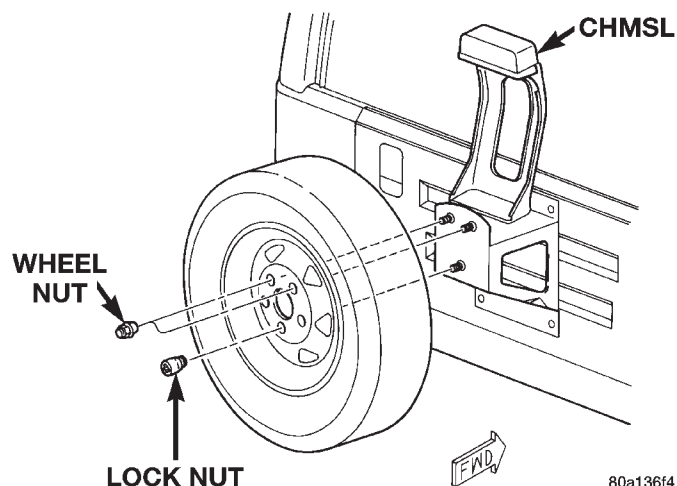

Fig. 78 Spare Tire
- (1) Remove the spare tire from the wheel bracket (Fig. 78).